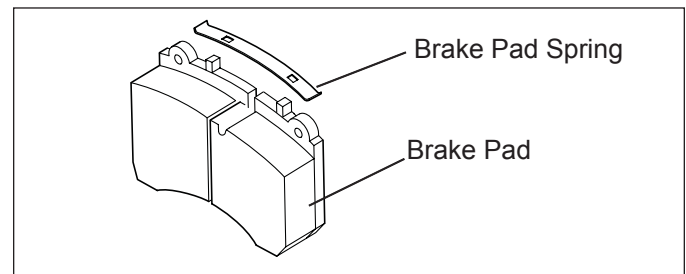

Figure 13 – Pad Retaining Spring Installation
1. Install the brake pad retaining springs onto the brake pads by inserting one end of the spring onto the lug at the top of the brake pad (See Figure 13). Carefully apply enough force to permit the second lug to fully engage, taking care to keep fingers etc. away from the spring as it seats.